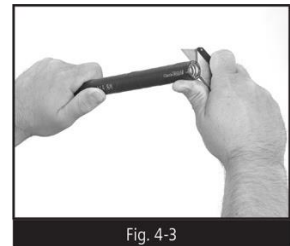

Fig. 4-3
Step 2 Strip Jacket (Fig. 4-3, Fig. 4-4)